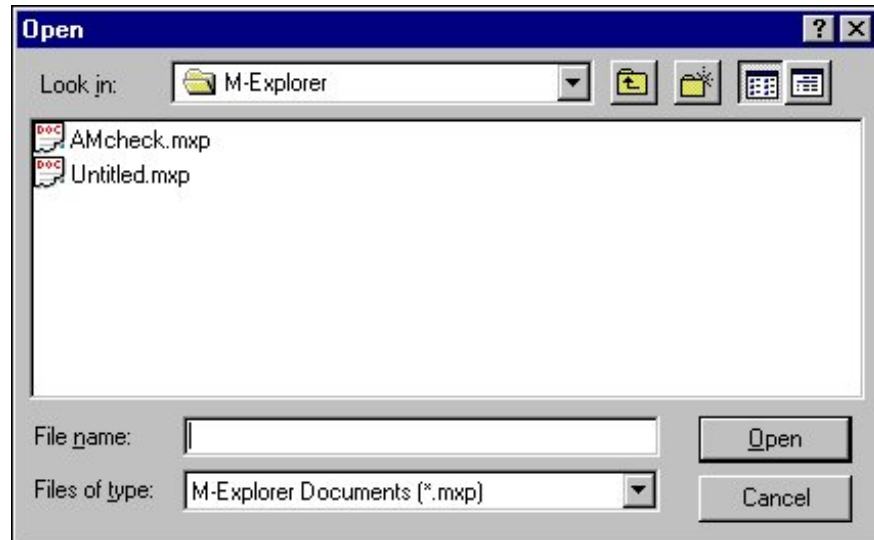

Figure 4-2: Open Dialog Box
1. From the File menu, click Open. The Open dialog box appears (Figure 4-2).